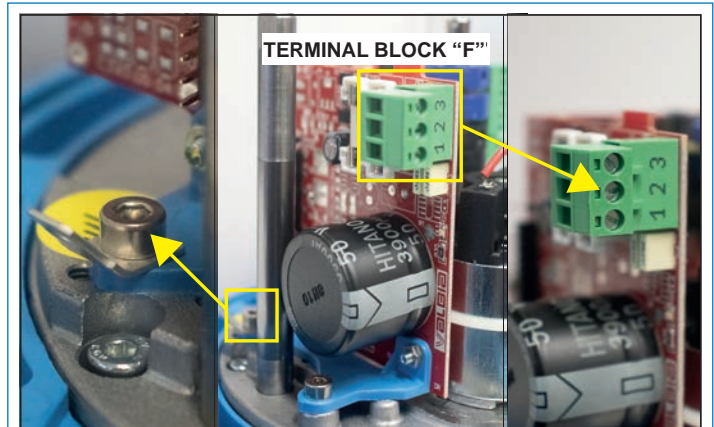
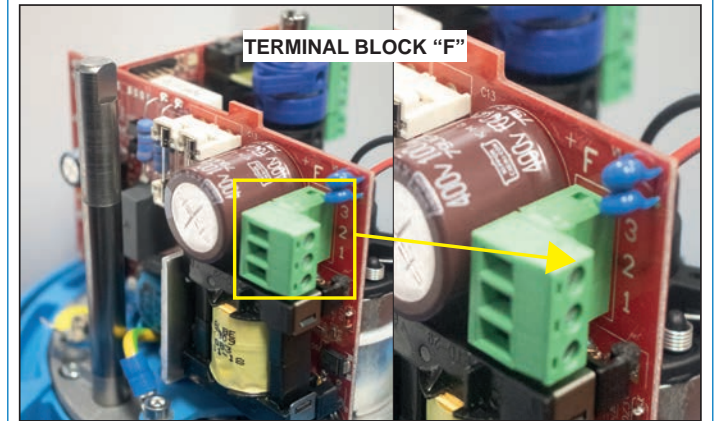

Fig.2 Board for the low voltage supply and particular of terminal block "F"
Fig.3 Board for the high voltage supply and particular of terminal block "F"
5. Proceed to connect the cable in its proper terminal block "F" by looking at the wiring diagram (Fig.2) according to the different voltage (please also review the tag you find inside the cover).
The wiring diagram, which should be followed for proper wiring of the actuators, is shown in paragraph 10.0 and it can be found also on the label inside the upper cover. Please follow the maximum allowed electrical rating values. The terminal block "F" in the 100-240Vac is shown in Fig. 3, 12Vac/dc and 24Vac/dc in Fig. 2. The cables through the connector must be of the proper size.